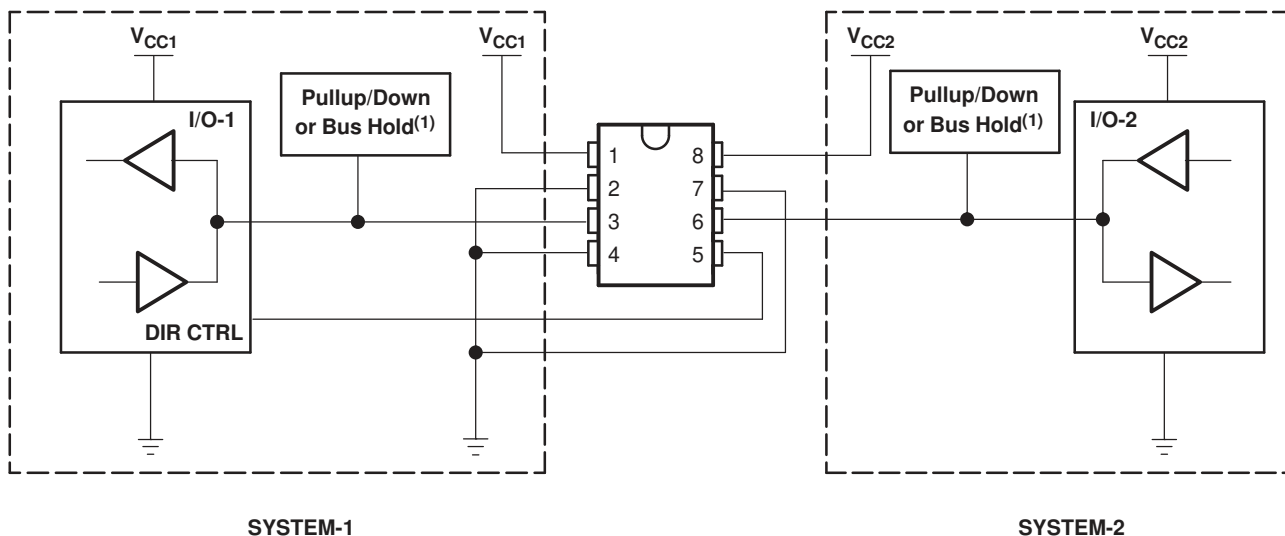

Figure 9-2. Bidirectional Logic Level-Shifting Application
Figure 9-2 shows the SN74LVC2T45-Q1 being used in a bidirectional logic level-shifting application. Because the SN74LVC2T45-Q1 does not have an output-enable (OE) pin, the system designer should take precautions to avoid bus contention between SYSTEM-1 and SYSTEM-2 when changing directions.